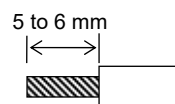

Figure 13. Sheath strip length
- 2) Use $\phi 5.5$ to $\phi 6.0$ mm cable (JIS VCTF ($0.3 \text{ mm}^2 \times 4$ cores) cable recommended) for connection. Strip 5 to 6 mm sheath of each lead wire. (See Figure 13.)